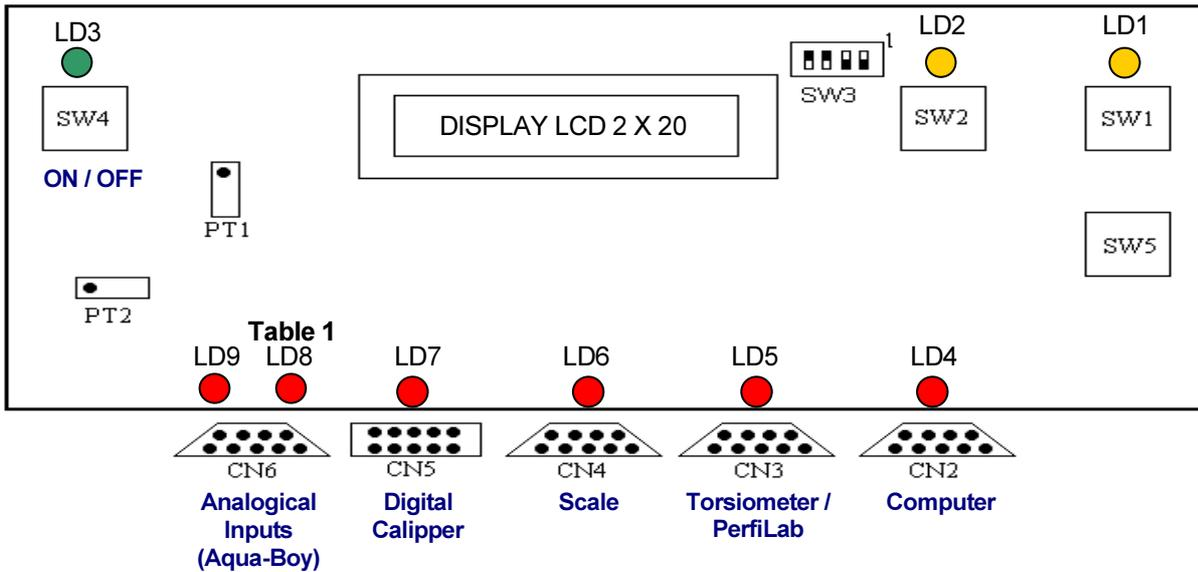

Figure 3 – Inside-upper view of InterLab
The figure 3 shows an inside-upper view of InterLab.
2. Search the components **SW3** and **PT2**. In order to get help, see the picture of Figure 3.